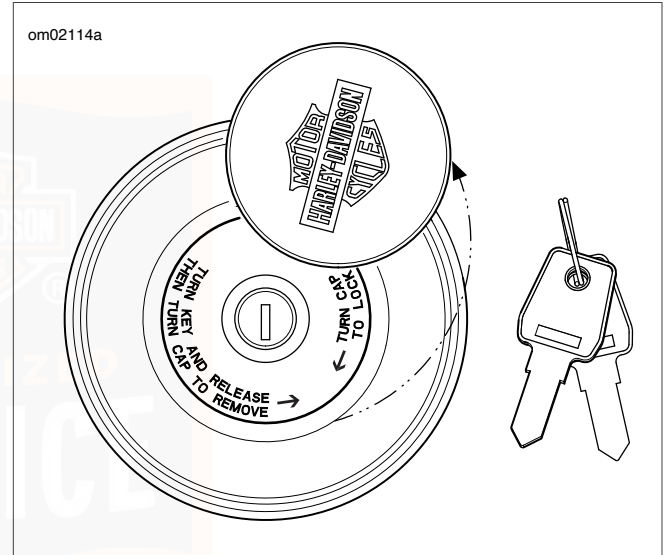

Figure 22. Locking Fuel Filler Cap
1. See Figure 22. Rotate the lock cover to access the key lock.
1. See Figure 22. Insert the key into the lock.